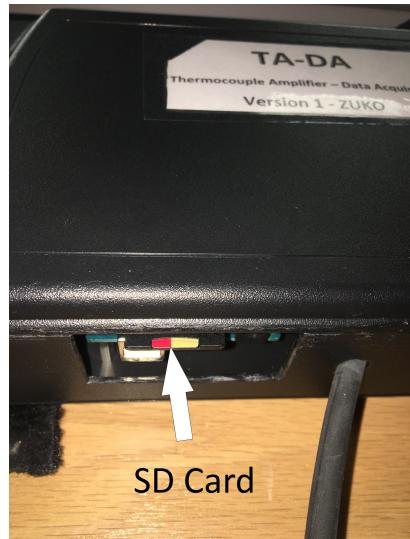

Figure 2: SD card slot location
7. Ensure a compatible SD card is inserted securely into the TADA datalogger (see Figure 2)